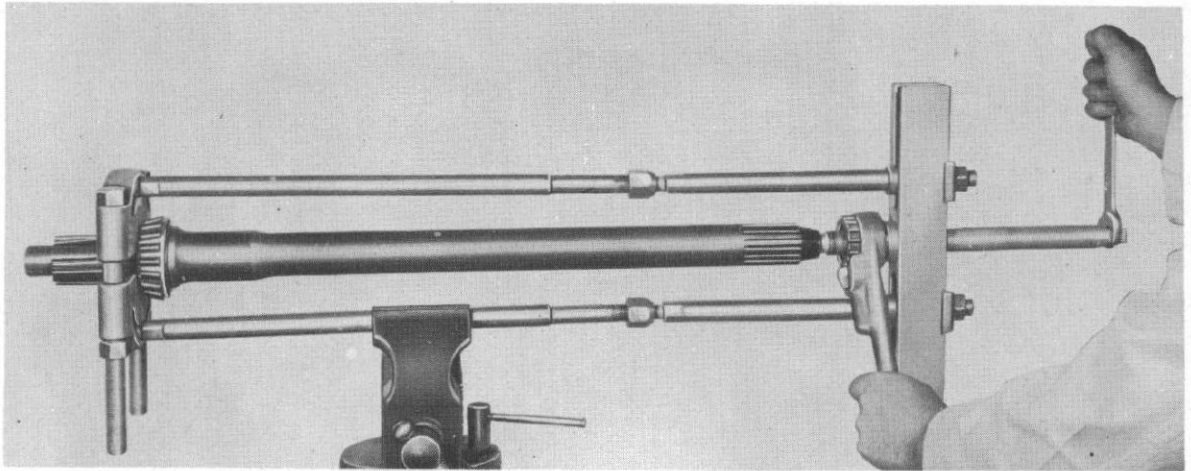

Fig. 4
Step 2—Install the bearing as shown in Fig. 4, or with an arbor press.